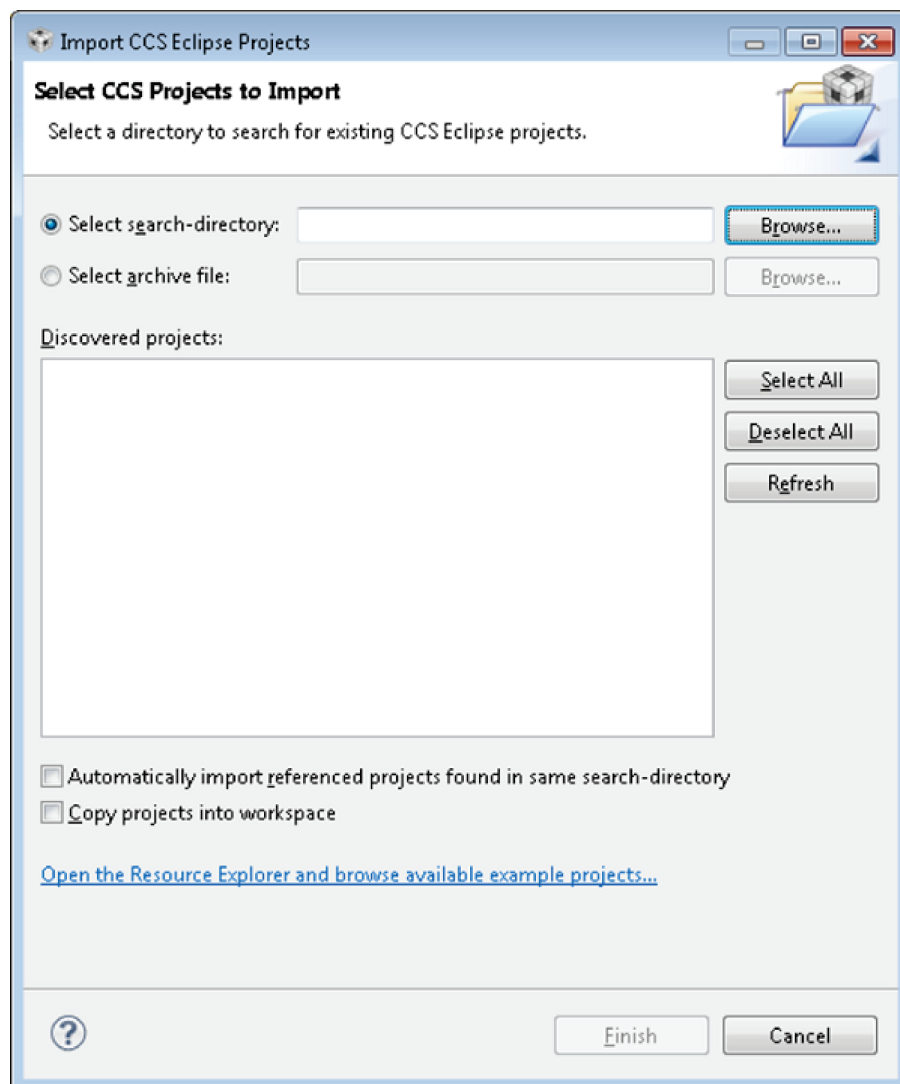

Figure 2-1. Select CCS Projects to Import
3. Select the Browse button in the Import CCS Eclipse Projects dialog, as shown in Figure 2-1, and select the directory <sdk-installation-path>\examples\os\CC3220SF_LAUNCHXL\demos (use relative path of CC3220S if needed).